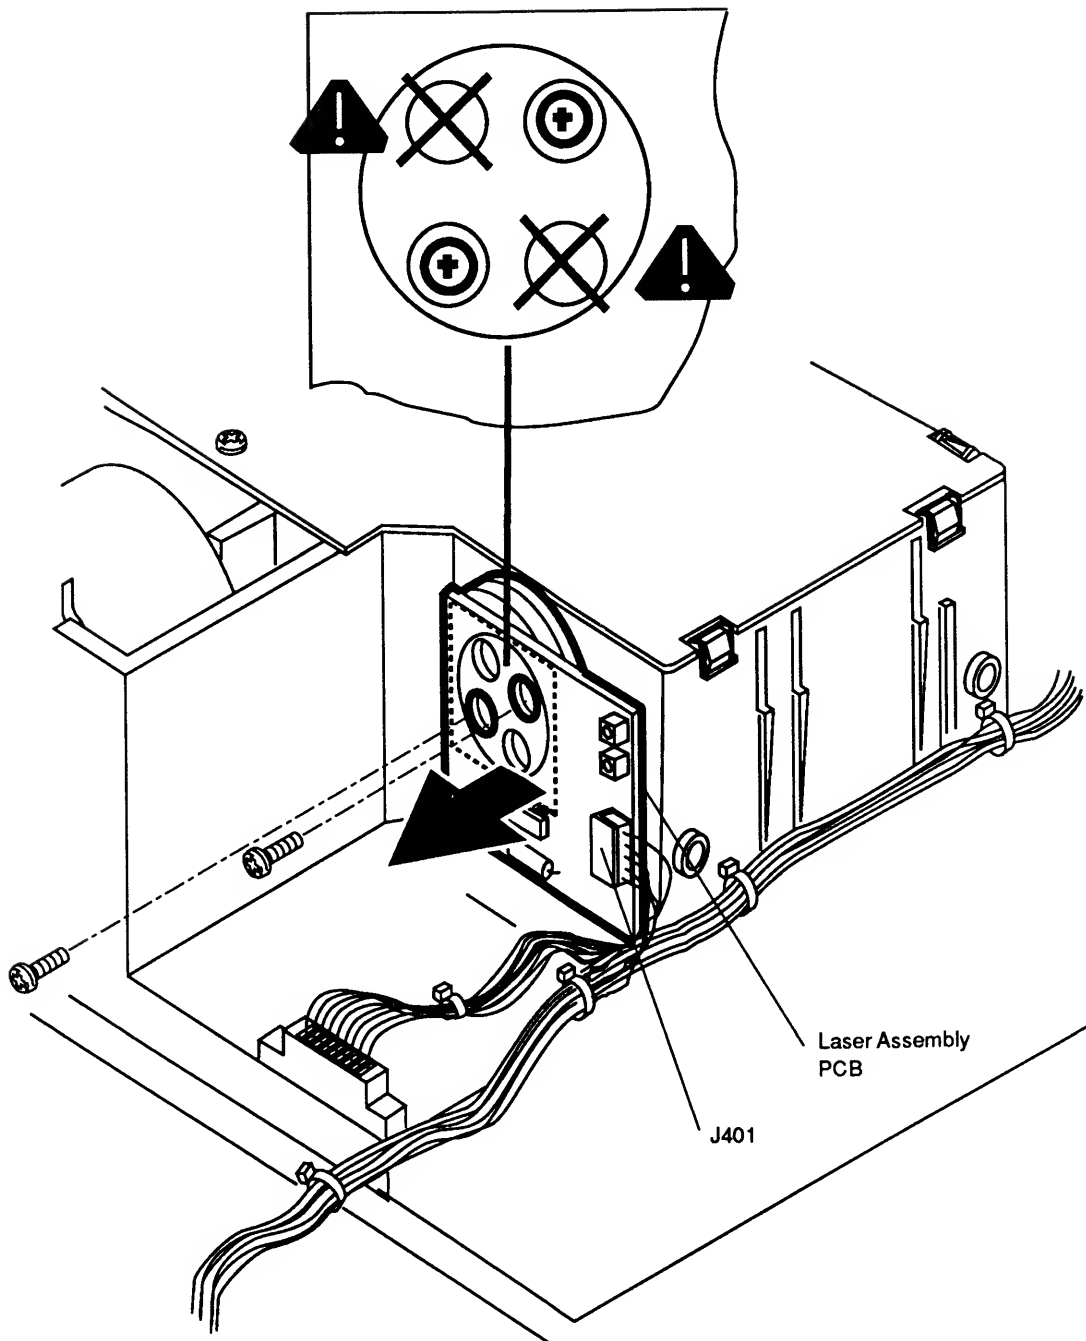

Figure 2-34 Laser Assembly
3. Disconnect connector J401 from the laser assembly PCB (**Figure 2-34**).
4. Remove the two recessed screws (one is at one o'clock and the other is at eight o'clock) that secure the laser assembly PCB to the printer chassis (**Figure 2-34**).